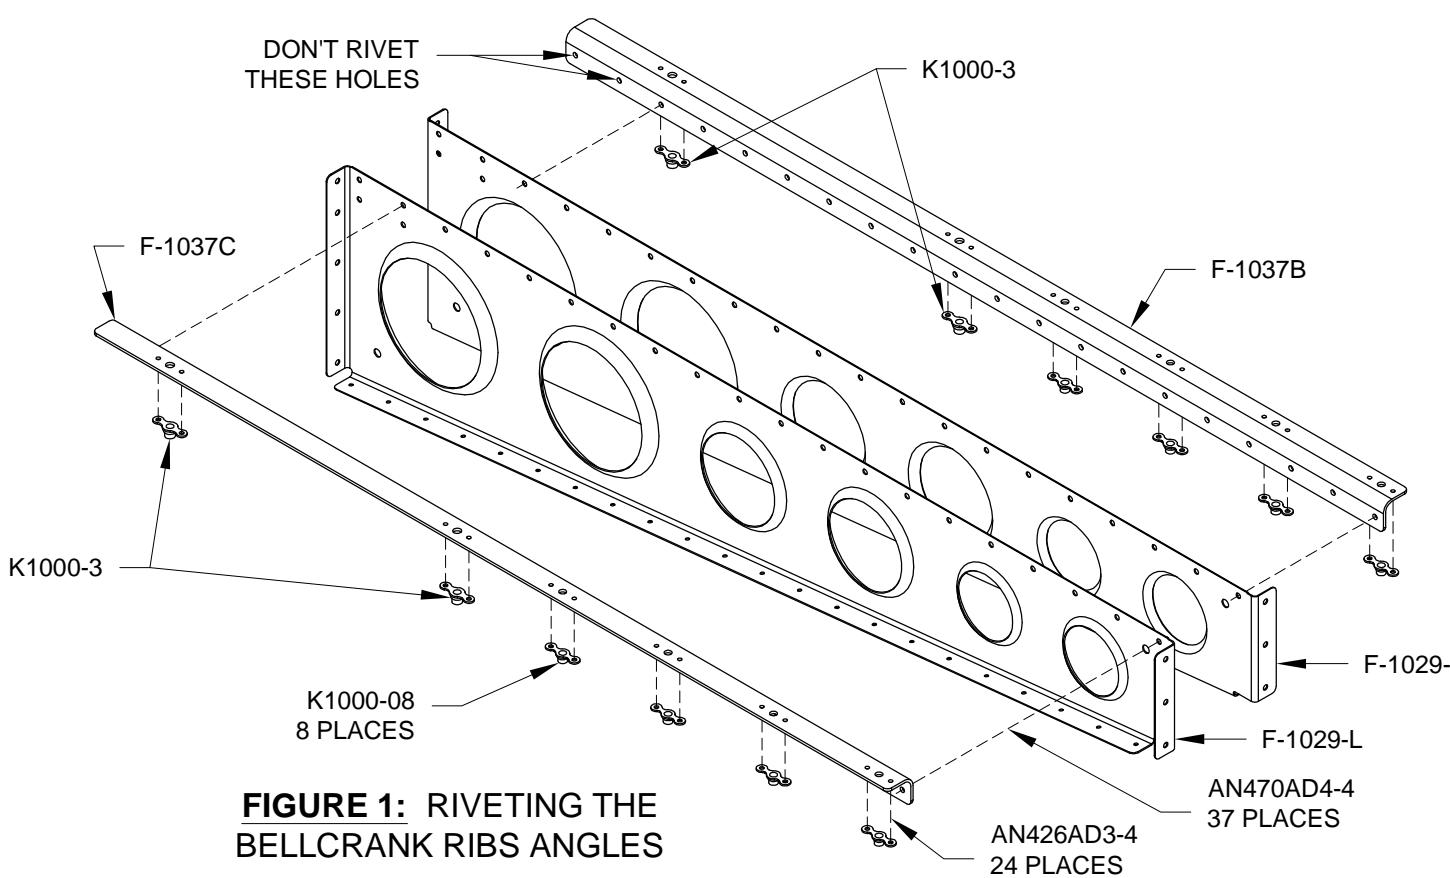

FIGURE 1: RIVETING THE BELLCRANK RIBS ANGLES
Step 1: Rivet the nutplates shown in Figure 1 to the F-1037B & C Bellcrank Rib Angles using the rivets called out.
Step 2: Rivet the F-1037B & C Bellcrank Rib Angles to the F-1029-R & -L Bellcrank Ribs respectively using the rivets called out in Figure 1. Don't install rivets into the two forward holes of the F-1037B Bellcrank Rib Angle (see figure).
Step 3: Cleco the F-1029 Bellcrank Ribs to the F-1078 Forward Bottom Skin, the F-1006 Bulkhead, and the F-1007 Frame. Rivet the bellcrank ribs to the skin using the rivets called out on Page 10-25, Figure 1. Rivet the bellcrank ribs to the F-1007 Frame using AN470AD4-4 rivets. Do not rivet to the F-1006 Bulkhead.
Step 4: Using the rivets called out on Page 10-25, Figure 1, rivet the F-1073 Side Skins to the portion of the F-1032 Longerons under the F-1014 Aft Deck. The figure also points out the empennage fairing attachment screw holes make sure not to install any rivets in these holes.